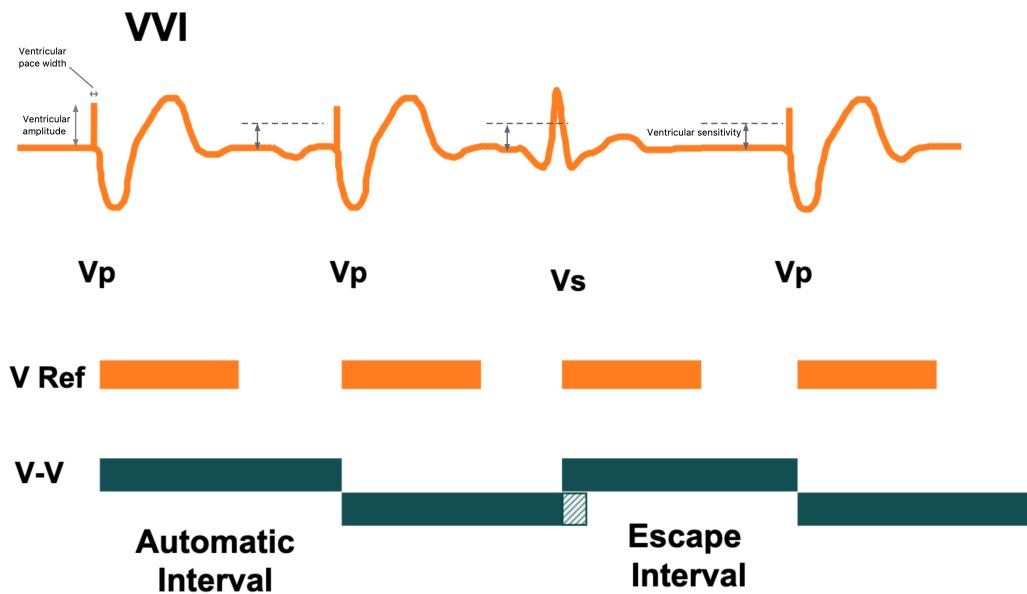

Figure 6: VVI Timing Cycles (adapted from: Timing Cycles)
Figure 6 makes use of only 5 programmable parameters. Incorporating the remaining programmable parameters into the timing diagram (and/or creating new timing diagrams to understand the remaining parameters) is left as an exercise.
3. Similarly, the timing cycles above can further be decomposed into distinct states. Can you derive additional states by decomposing Figure 6? Draw vertical lines to identify the time when the pacemaker would enter a new state.